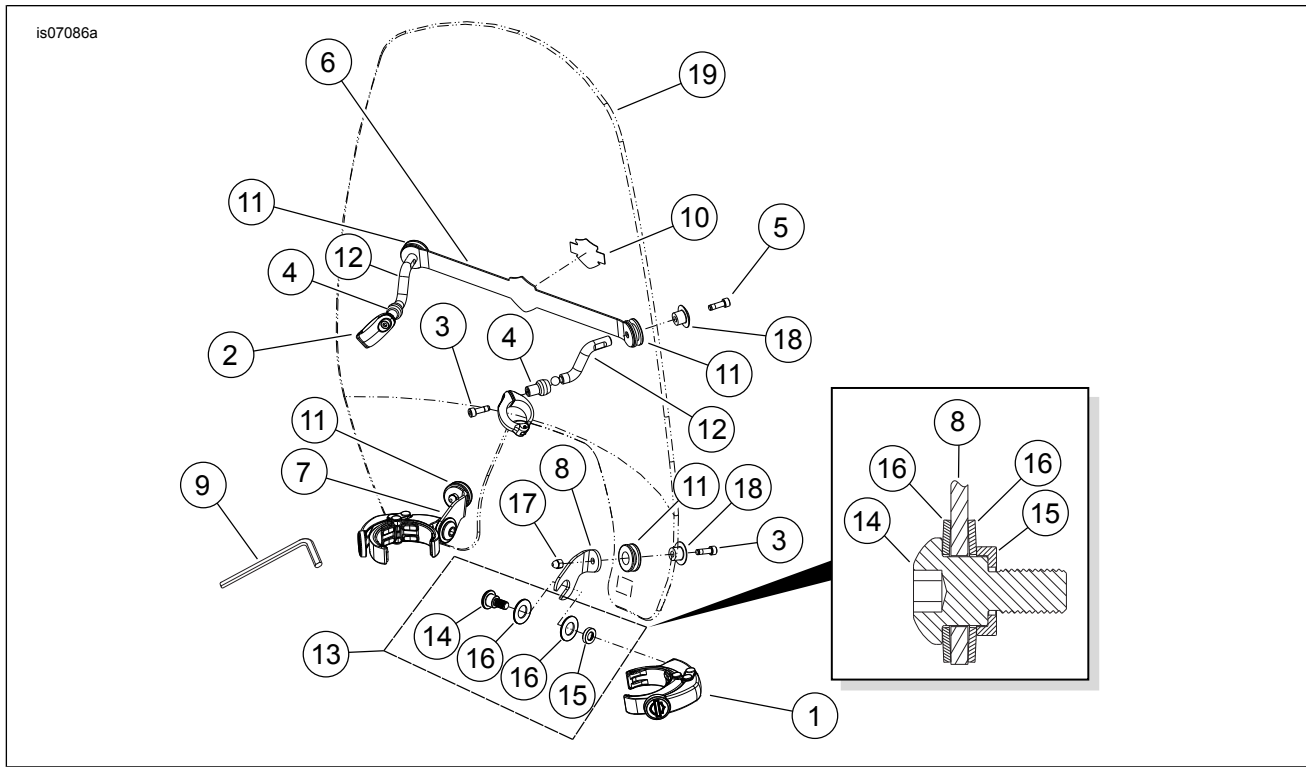

Figure 1. Service Parts: VRSCDX Windshield
See Figure 1 and Table 1.
1. See Figure 1. Obtain the windshield assembly (with mount brackets 7 and 8 installed), two quick clamps (1), and two hardware kits (13) from the Windshield Kit.
2. Install two Belleville washers (16) onto the threads of each screw (14) as shown in the inset, so the outer diameters are in contact. Install a cup washer (15) onto each screw, with the cupped side facing the screw head.
4. Install upper posts (12) using screw (5), grommet (11) and upper mount (18) loosely.
5. Bring the windshield assembly to the front of the vehicle, and flex the shield to position the open quick clamps between the fork tubes and headlamp bracket, but do not clamp at this time. Snap the ball ends of the two windshield mount posts (12) into the snap sockets of the handlebar clamps (1) by pressing directly above the posts on the windshield face. A quick "bump" against the shield will snap the ball ends into the snap sockets. Position the windshield and tighten the clamps and windshield screws to 4.5–5.6 N·m (40–50 in-lbs).